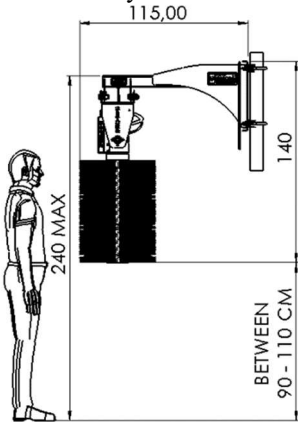

Figure 2
Dimensions of the cow brush machine need to be as in Figure 2 below.
- Lowest point of brush must be above 90cm from floor level. (See Figure 2)
- a. Cut tie rap and put U bolts, nuts and other connection pieces to a side. (5)
- c. Unscrew the security bolt and nut (33).
- d. Attach the machine to the pole in the barn as shown in Figure 2 with the help of U bolts, reinforcement plates and nuts. Make sure that reinforcement plate flat side will face the back plate of brush frame. Teeth side will keep the pole. For wall attachment brush can be attached straight on to wall from the holes on back plate.